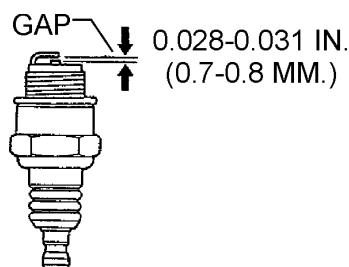

Figure 18. Spark Plug Gap
- Remove and clean the spark plug (Figure 18), then adjust the spark gap to 0.028 ~ 0.031 inch (0.6~0.7 mm). This unit has electronic ignition, which requires no adjustments.